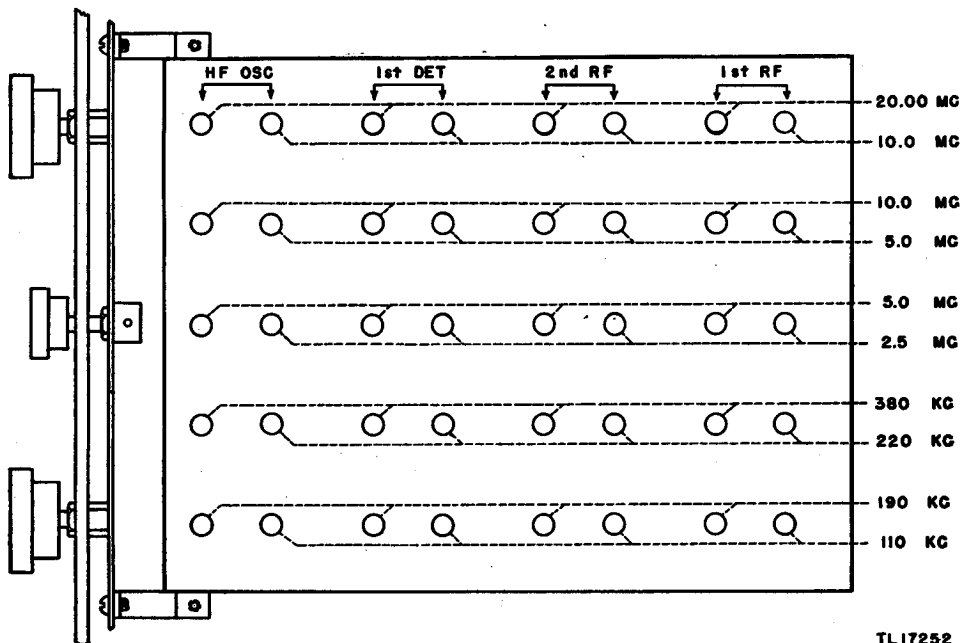

Figure 17. Alignment controls, Radio Receiver BC-779-B.
e. HIGH-FREQUENCY OSCILLATOR CALIBRATION CHECK. The accuracy of the MAIN DIAL calibration depends solely on the h-f oscillator frequency which, on all bands of the basic receivers except the 20- to 40-megacycle (mc) band of receiver BC-794-B, is 465 kc (the i-f) higher than the signal frequency. In the BC-794-B the h-f oscillator is 465 kc below the signal frequency on the 20- to 40-mc band. To check calibration, tune in signals of known frequency on each band and note the MAIN DIAL reading. If it does not agree with the known frequency of the signal being received, the calibration is off. To correct dial calibration, see figures 17, 18, and 19 for location of h-f oscillator adjustments as well as the signal frequencies at which adjustments should be made. The signal generator may be set for the lower end of the band, and its second harmonic, if strong enough, may be used at the upper end. The output of the signal generator should be unmodulated and the SIGNAL-MOD-CW switch on the receiver should be set at CW, the BEAT OSCILLATOR control at zero, and the BAND WIDTH at 16. Disconnect output meter and use headphones or a loudspeaker to make the necessary adjustments by the zero beat method. The signal generator is to be connected to the antenna terminals for this test. If this test is made, for example, on the 2.5- to 5.0-mc band and the signal generator is tuned for 2.5 megacycles, the second harmonic is used at the 5.0-mc end of the band. Tune the second harmonic at the 5.0-mc end of the dial to zero beat. If the dial is off the 5.0-mc calibration line, turn the dial toward the correct setting just enough to set up a high pitched tone, but not enough to go above audibility. With the alignment screw driver, adjust the trimmer capacitor marked h-f oscillator (5.0-mc) until the beat is returned to zero. Repeat this until the dial has been returned to a correct reading and zero beat. After aligning the 5.0-mc end of the band, tune the 2.5-mc fundamental at the low-frequency end of the main dial, and correct the calibration step-by-step as before, using the inductance trimming adjustment h-f oscillator (2.5 mc). The second harmonic will now be found out of line again, when tuned, since the adjustment at one end of the band affects the other end of the band. A back-
f. R-F AND FIRST DETECTOR ALIGNMENT. Accurate calibration and modulation of the signal generator is not required to check these adjustments. The input to the antenna terminals should be through approximately 100 ohms, including the output resistance of the signal generator. If the signal generator is modulated, the receiver controls should be set as for i-f alignment; if unmodulated, set BEAT OSCILLATOR knob to 2 (on either side) and SIGNAL-MOD-CW switch to CW. Adjust SENSITIVITY to produce a half-scale reading on the output meter when the signals are exactly in tune. Starting with the 2.5- to 5.0-mc band, set the main dial at 5.0 megacycles with band spread dial at 100, and adjust the frequency of the signal generator to peak deflection of the output meter. Check the setting of the trimmer marked first detector and 5.0 megacycles. (See figures 17, 18, or 19.) Repeat this procedure on trimmers indicated as 2d RF and 1st RF in the same row. If readjustment of the settings results in an increase in output meter reading, alter the SENSITIVITY control to reduce the reading to half scale. Check the tuning of the receiver after each adjustment to see that the test signal is accurately tuned. The band spread control may be used as a vernier for this purpose on the bands in which it operates.